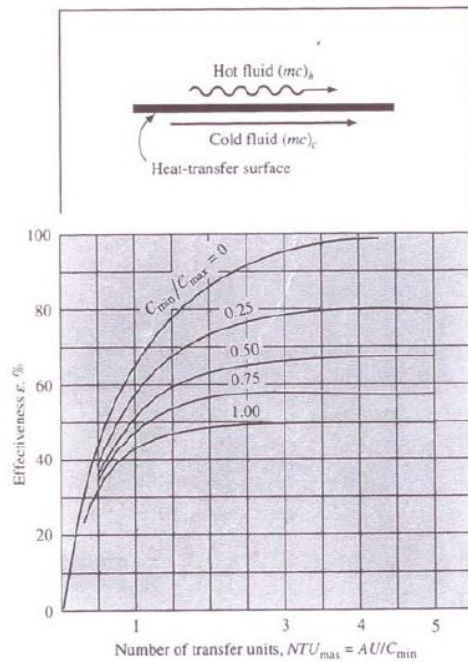

Figure 7.21: Effectiveness for parallelflow exchanger performance
- Figure 7.21 to 7-26 presented effectiveness ratios for various heat exchanger arrangements.